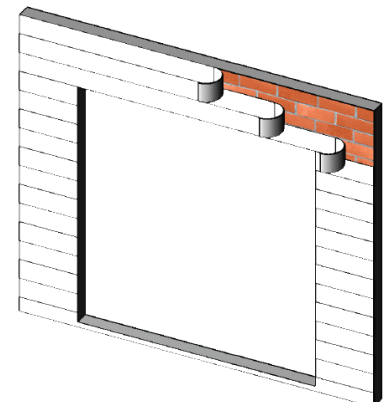

Figure 31:
4. Weather resistant building paper should be applied in a weatherboard fashion to complete the installation (Figure 31).